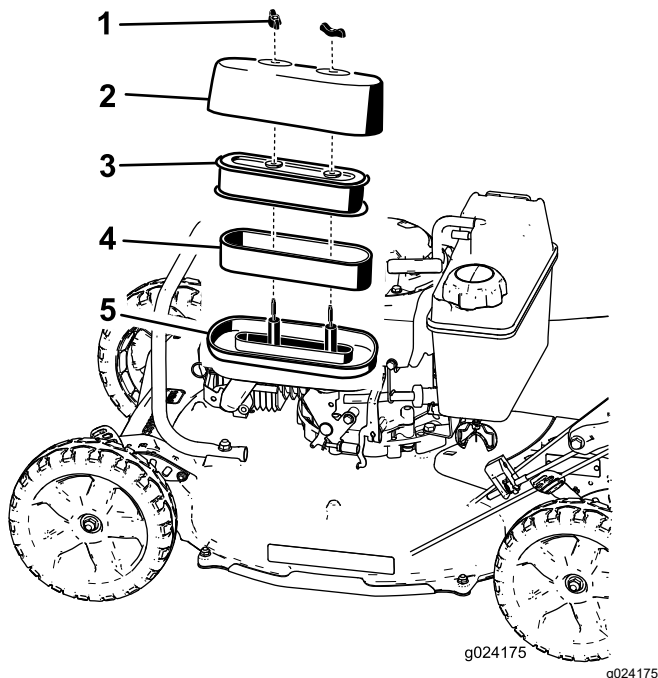

Figure 22
3. Remove the 2 nuts that secure the cover (Figure 22).
5. Remove the foam and paper elements from the base of the air filter (Figure 22).
6. Remove the foam element from the paper element (Figure 22).